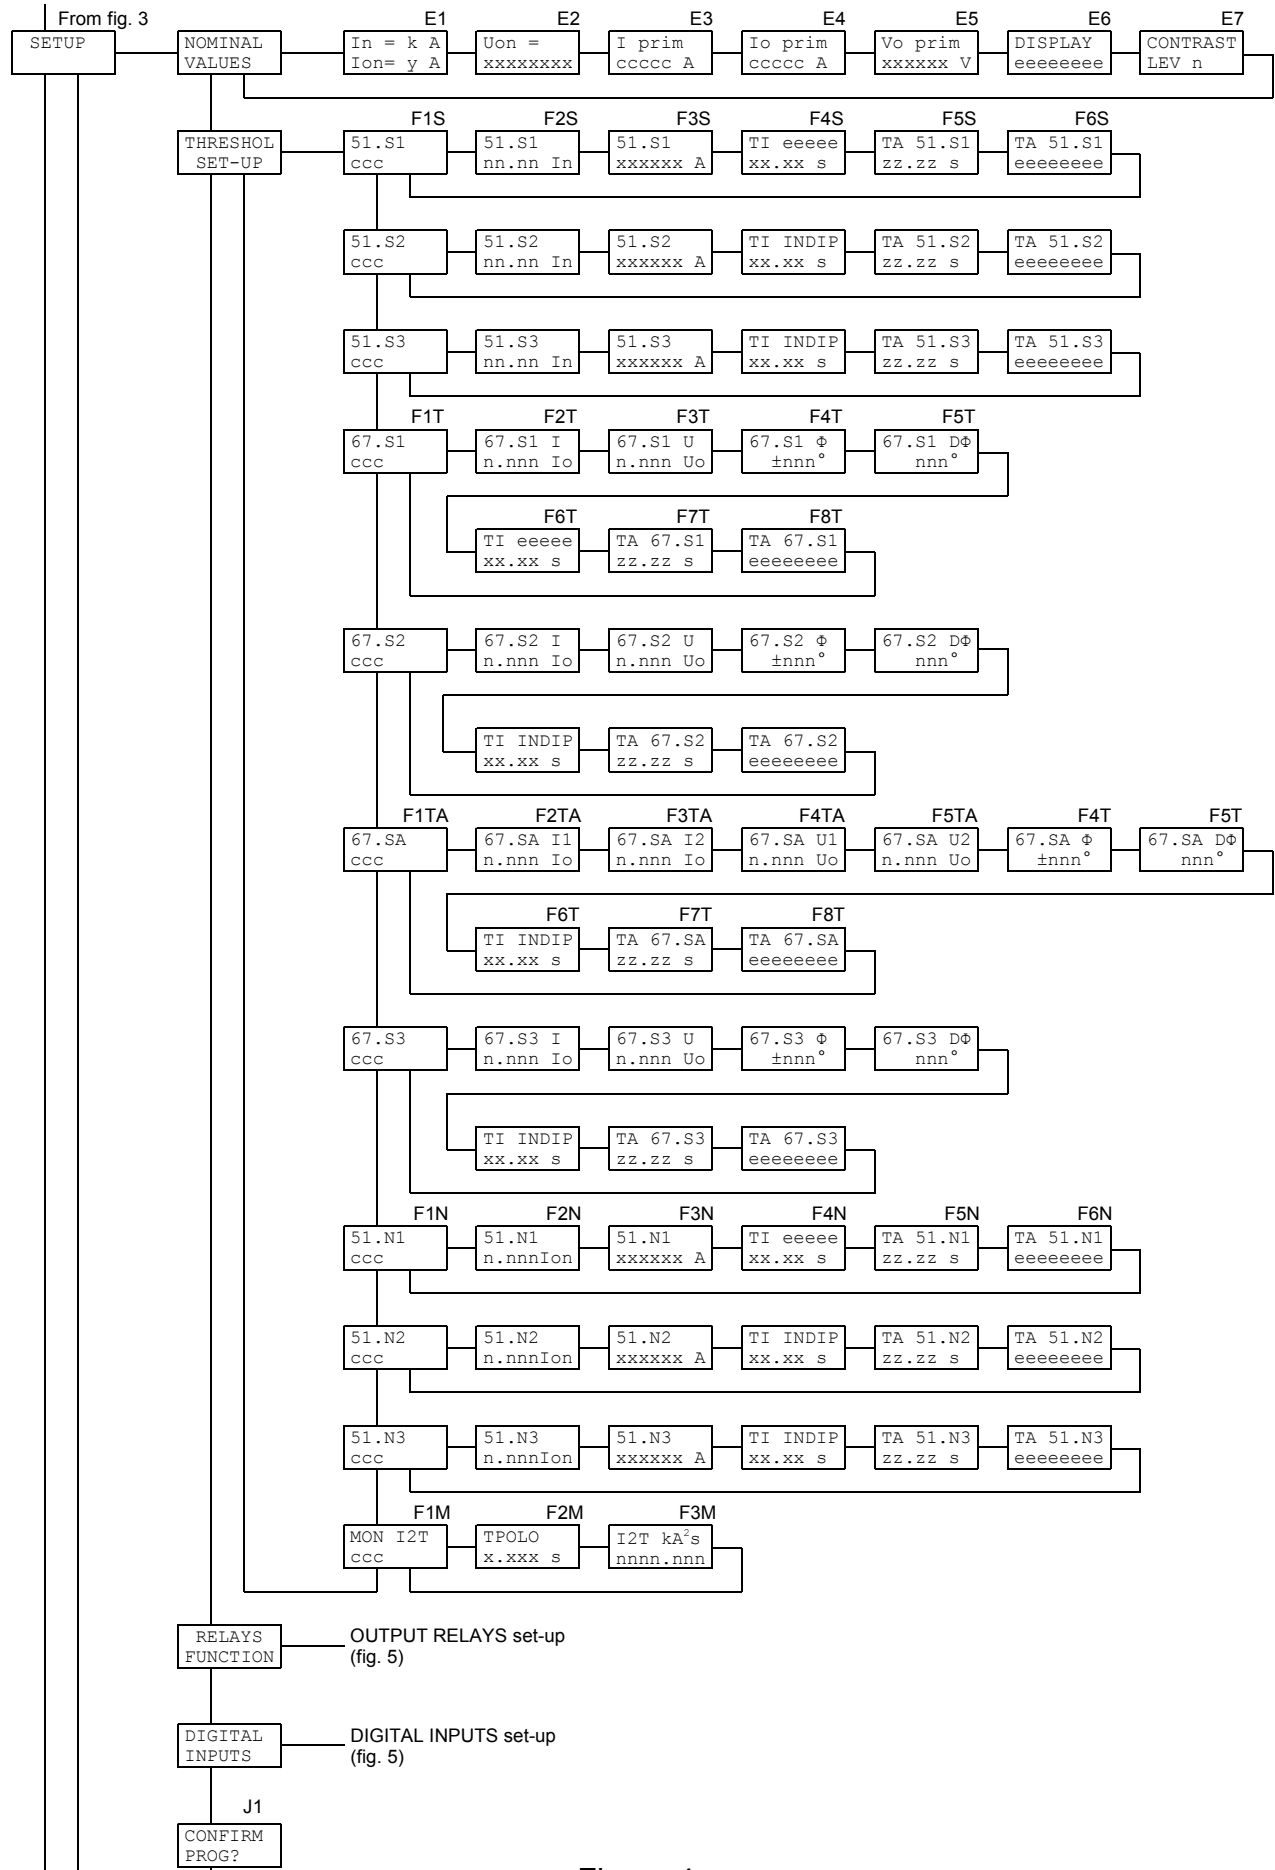

Figure 4
- 5) **CONFIRM** the new protection relay set-up at the visualization CONFIRM PROG? (Fig. 4, ref. J1) within 5 minutes depressing the push-buttons [ENTER] and  up to visualize **YES** and [ENTER] again to confirm.